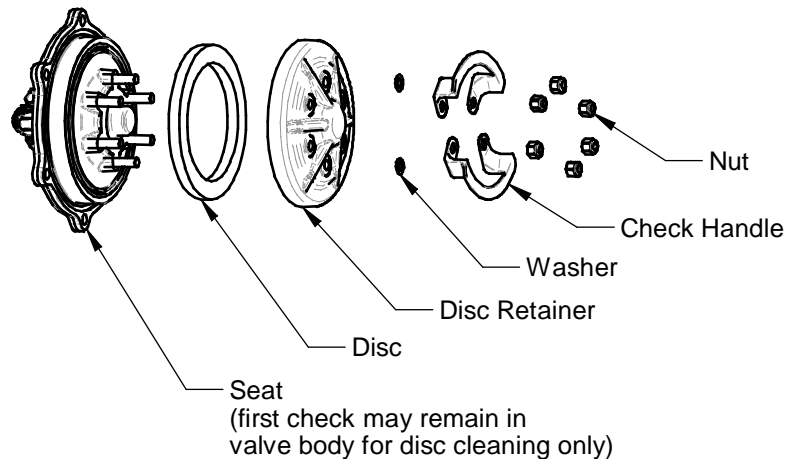

Figure 8
If only cleaning of the first check is necessary, simply remove the six (6) reusable locknuts for 8" valves / eight (8) nuts for 10" & 12" valves on the black plastic disc retainer (See Figure 8). Remove the check handles and washers and lift the disc retainer and disc out of the body. Rinse the disc with clean water or replace if necessary. The disc may be flipped over for a temporary repair, but should be replaced if damaged. Replace the disc, disc retainer, washer, handle, and nuts. Do not over tighten locknuts.